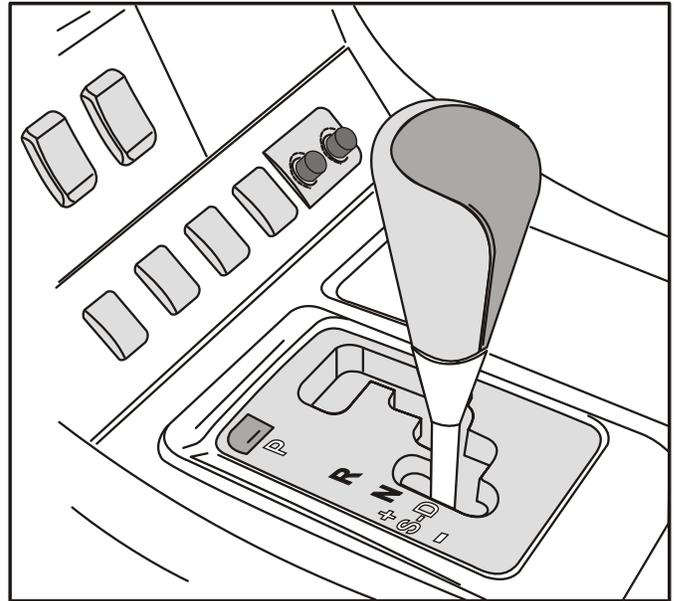

Figure 3
- Refer to Figures 3, 4, 5, and 6 for Shift position function.*
The Driving Pattern Select Switch located in the center floor console consists of a Park, Reverse, Neutral, Drive and Select Mode Driving position (See Figure 3). A shift lock system is used to minimize the possibility of incorrect operation. This means that you can only shift out of Park when the brake pedal is depressed with the ignition switch in the ON position.